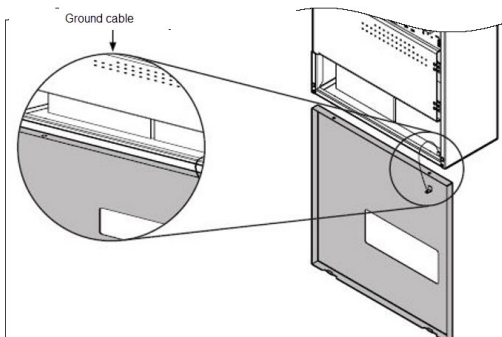

Figure 12. Disconnect the ground cable from the NX16US front panel
4. Refer to Figure 12; disconnect the ground cable from the front cover; leave the ground cable connected to the enclosure.